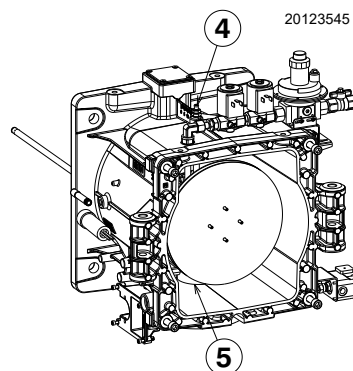

Fig. 29
Tab. L allows to identify the power delivered by the burner based on the pressure measured at the test point 4)(Fig. 29 on page 30).
Gas pressure measured at the test point 4)(Fig. 29 on page 30), with:
- subtract the combustion chamber pressure from the gas pressure measured at test point 4)(Fig. 29 on page 30).
Gas pressure at test point 4)(Fig. 29) = 9 mbar